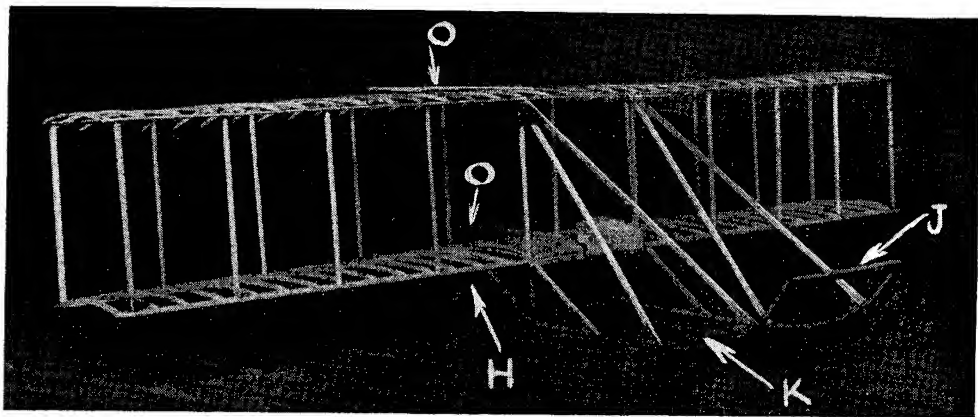
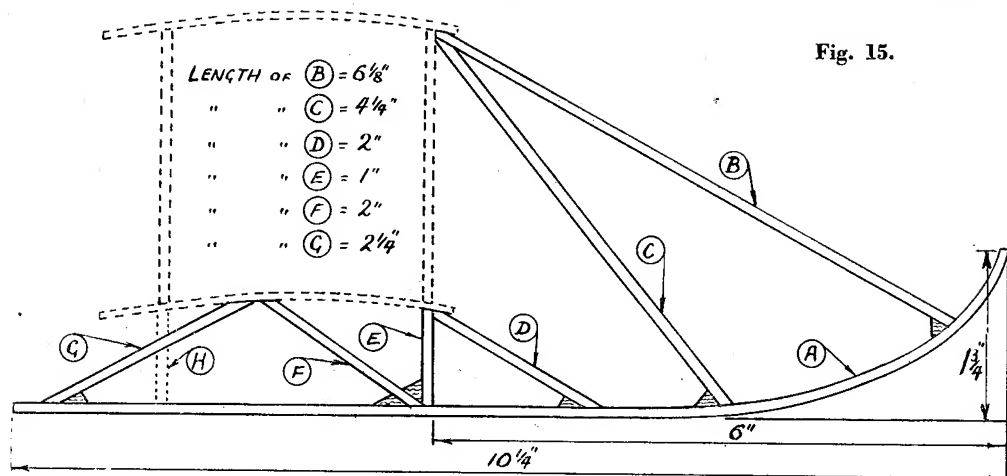
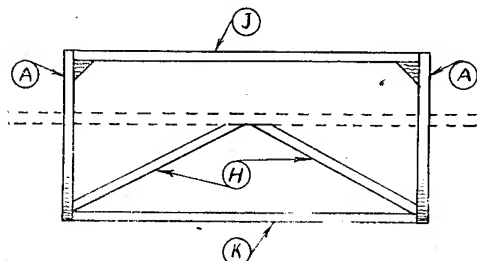

Fig. 14. Biplane structure with outriggers and tail-booms attached.
Fig. 15.
Fig. 16.
AS mentioned in a previous article, the "Wright" biplane was not, at first, fitted with a wheeled undercarriage, but possessed a pair of skids which were swept upwards at the front to carry the elevator. These skids may now be made and fixed to the model, and the photograph, Fig. 14, shows the framework thus completed. Fig. 15 gives details of the arrangement of one of the skids and its bracing struts, and two such assemblies are required. The skid itself [marked (A)] is bent in the steam from a kettle from a length of  $1/16$  in.  $\times$   $1/16$  in. birch or spruce, to the mild curve shown. It will be as well to make a full-sized drawing of the skid so that the piece of birch may be bent and laid upon the drawing to ensure that the curve conforms. The best plan is to bind two lengths of birch together with cotton, and to bend both pieces at one operation. This ensures that both skids will be alike.
secured by means of pins until the cement is hard. When set enough to handle, two cross-bracing struts are added beneath the wing, as may be seen in Fig. 16. This drawing represents a view of the undercarriage from the front, and should be viewed in conjunction with the photograph and Fig. 15. In Fig. 15 will be seen a spar in dotted line marked (H), which is one of the two bracing struts shown in full line in the front view in Fig. 16. In the photograph (Fig. 14), one of these struts, marked (H), may be seen beneath the wing, and it will be noted that they run from the skid to the centre of the lower wing.
the rest of the undercarriage is of 1/16 in.  $\times$  1/16 in. similar wood. All the small corner blocks, as shown in Fig. 15, should now be cemented into place. On looking at Fig. 16 it will be seen that there are also
the exact shape thus being easily obtained. The plates are fixed to the spars with cellulose cement, and, when in position, the rivets may be successfully imitated by denting the aluminium with the point of a scriber. They are seen quite well in Fig. 14.
ensure that the spar projects horizontally from the wing top. On both top and bottom wings the spars are cemented to the top wing surface, as may be seen in Fig. 14, marked (O), which shows how your structure should appear at this stage.